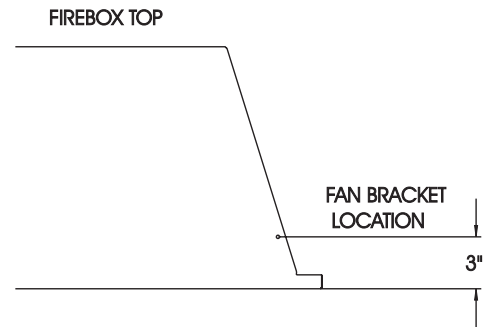

Figure 22
4. Centered in the rear are two (2) weld studs which protrude upward into the bottom of fireplace for attachment of fan.
6. Align and place front set of clearance holes on fan mounting bracket onto two (2) weld studs.
7. Use two (2) wing nuts to attach blower to weld studs.
8. Located in the right, front are two (2) weld studs which protrude upward into the bottom of fireplace for attachment of speed control.
9. Insert speed control into interior, bottom of fireplace. Align and place two (2) clearance holes on speed control onto two (2) weld studs.
10. Use two (2) wing nuts to attach speed control to weld studs.
12. Refer to Figure 22 for mounting hole location on right side of firebox top. Measure from front edge of firebox top to determine mounting hole location. Remove appropriate screw from firebox top.